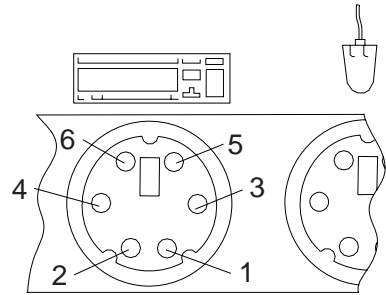

Figure 2-6. Keyboard Connector Voltage Check
- Check the voltage at the keyboard cable connector on the system board, shown in Figure 2-6 on page 2-33, after the POST.